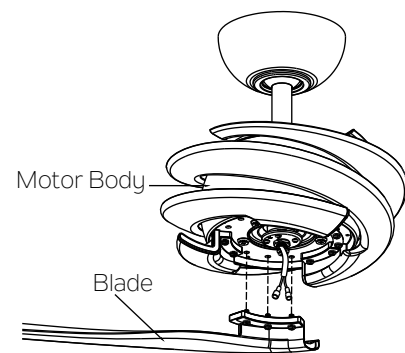

Fig. 16
**Step 2.** Line up the holes in the blade with the holes in the bottom of the motor body (marked B-B). Faster blade to the bottom of the motor body with two "preinstalled" screws provided. Repeat steps for the remaining blades. (Fig. 16)